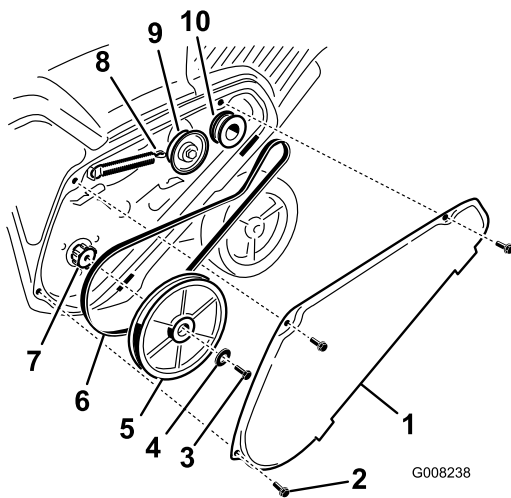

Figure 38
1. Remove the drive belt cover by removing the 3 bolts as shown in Figure 38.
- Unhook the brake spring from the idler arm to release the belt tension (Figure 38).
- Remove the screw and curved washer that holds the rotor pulley (Figure 38).
- Remove the rotor pulley and the drive belt (Figure 38).
Note: Route the new drive belt first around the engine pulley, then the idler pulley, and finally around the loose rotor pulley positioned just above the rotor shaft (Figure 38).
- Install the rotor pulley onto the rotor shaft (Figure 38).
- Install the curved washer and the rotor pulley bolt and tighten them securely (Figure 38).